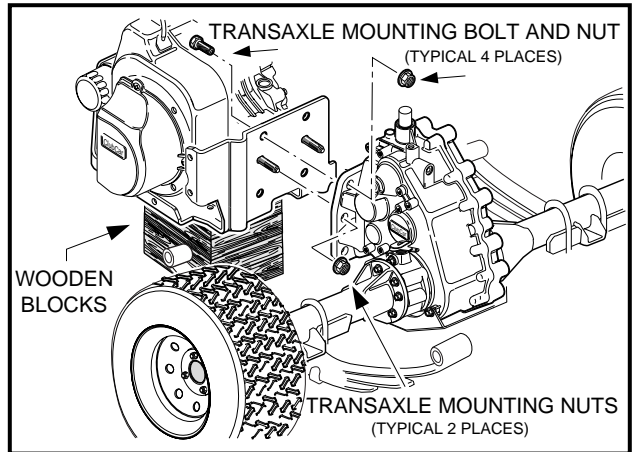

Figure 16-39 Transaxle Mounting
- 20.1. Remove four transaxle mounting bolts (one at each corner of the transaxle mounting plate) as shown (**Figure 16-39, Page 16-15**).
- 20.2. Remove two middle transaxle mounting nuts as shown (**Figure 16-39, Page 16-15**).